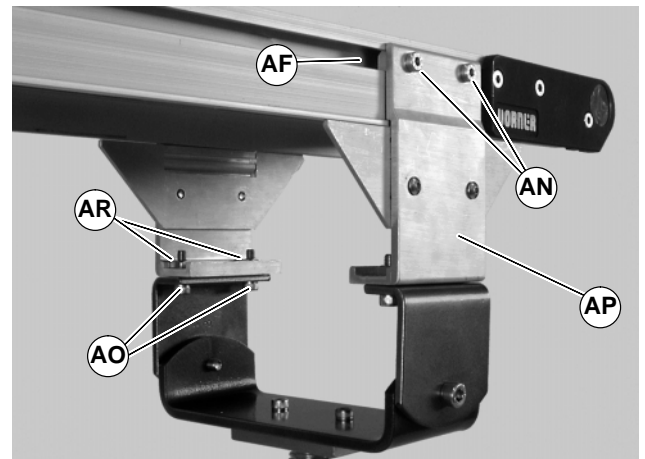

**Figure 27**
1. Gather components (Figure 27).
2. Remove screws (AN & AO of Figure 27), nuts (AR) and T-bars (AQ) from brackets (AP).
3. Insert T-bars (AQ of Figure 27) into conveyor side slots (AF of Figure 28). Fasten brackets (AP) to conveyor with mounting screws (AN).